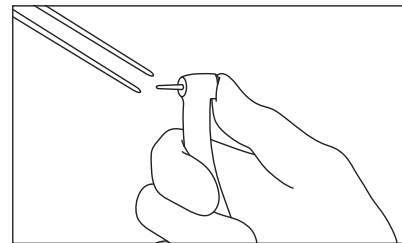

Fig. 6
- 2) Remove the file (Fig. 6).